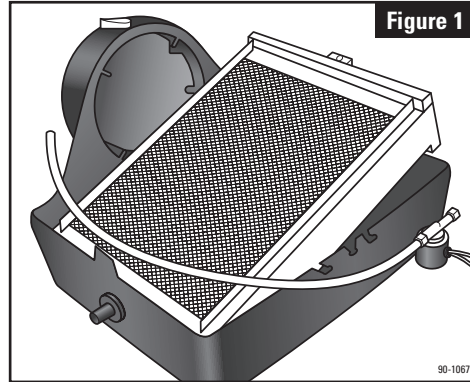

Figure 1
**1.** Remove front cover by pressing center tabs on top and bottom of the cover (1) and base (2). Pull feed tube (3) out of the water distribution tray (4). Tip the evaporative assembly backward and lift it out of the humidifier. (See Figure 1)
**2.** The humidifier comes assembled for left side discharge. If converting to right side discharge, the base can be rotated so round collar is facing to the right. Swap the location of the hole plug (10) and drain spud (9) if using a right side discharge. To remove the cap, push and twist from inside the housing while lifting the cap up slightly on the outside. To remove the drain spud, twist and push from the outside of the base.